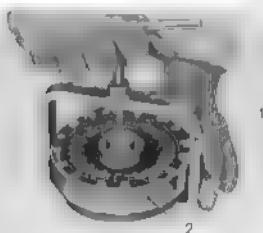

Fig. 3.67 Disassembly the clutch
5 The work of disassembling the clutch assembly ② can be simplified by the use of special tool ④ (Tool No. 07038 03001) (Fig. 3.67)